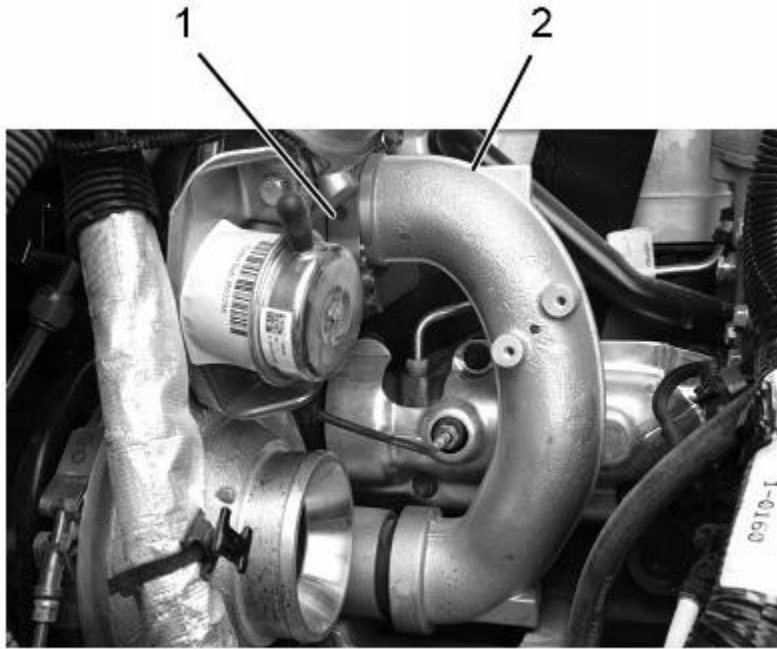

Figure 4. Crossover Tube.
13. Remove V-band clamp (Figure 4, Item 1) and crossover tube (Figure 4, Item 2).